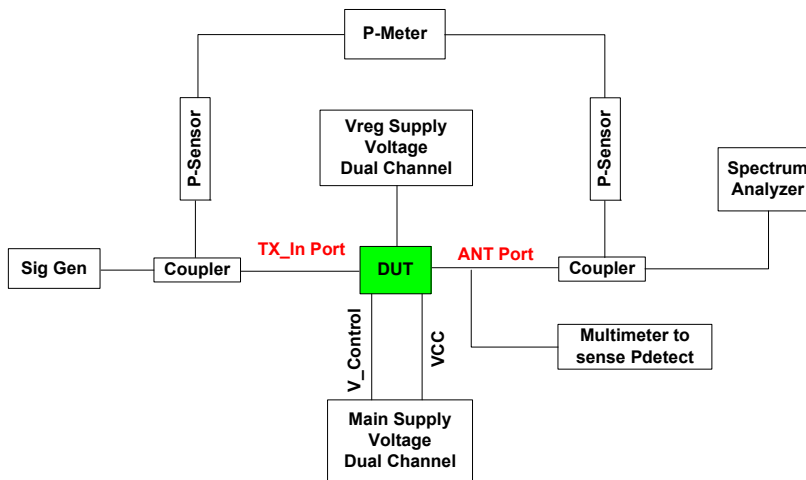

Figure 1. WiFi Transmit Path Test Setup
While in transmit mode, the active components are the Power Amplifier (PA) and the TX branch of the SP3T switch. Refer to figures 1 and 2 below for proper settings.
Once the test setup and DUT have been configured as indicated in figure 1 and 2, the off branches of the SP3T switch (C_RX, and C_BT) must be set to a logic state "low" (0.2V max) or grounded. In the event that one of these branches are left floating or in logic state "high" the performance of the PA will degrade significantly. Likewise, unused RF Ports must be terminated in 50Ω to simulate actual system conditions and prevent RF signals from coupling back to the PA.